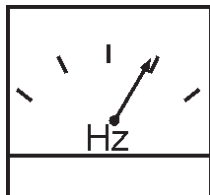

Figure 42. Frequency Meter
- The generator's **frequency meter** (Figure 42) should be displaying the 60 cycle output frequency in **HERTZ**.